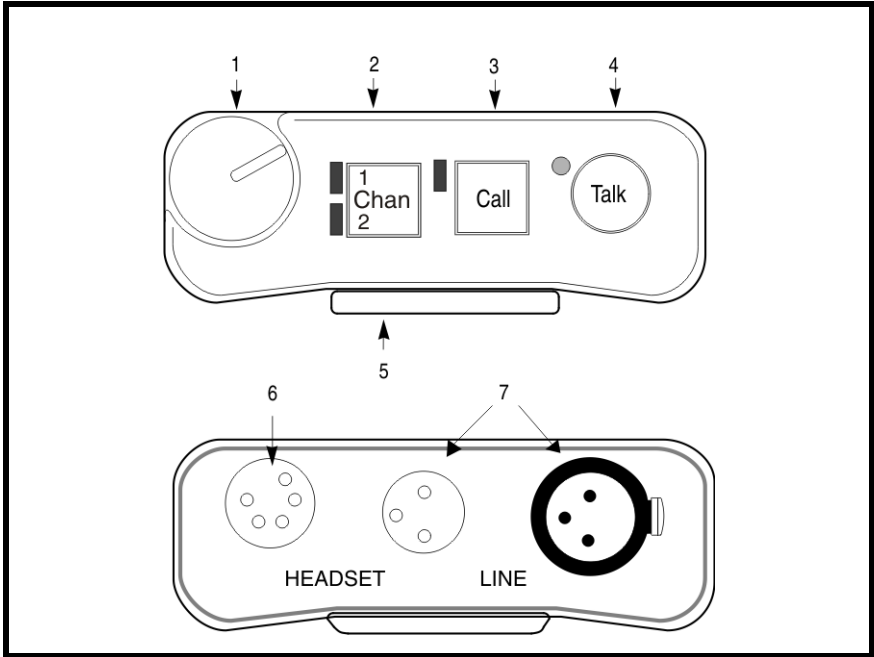
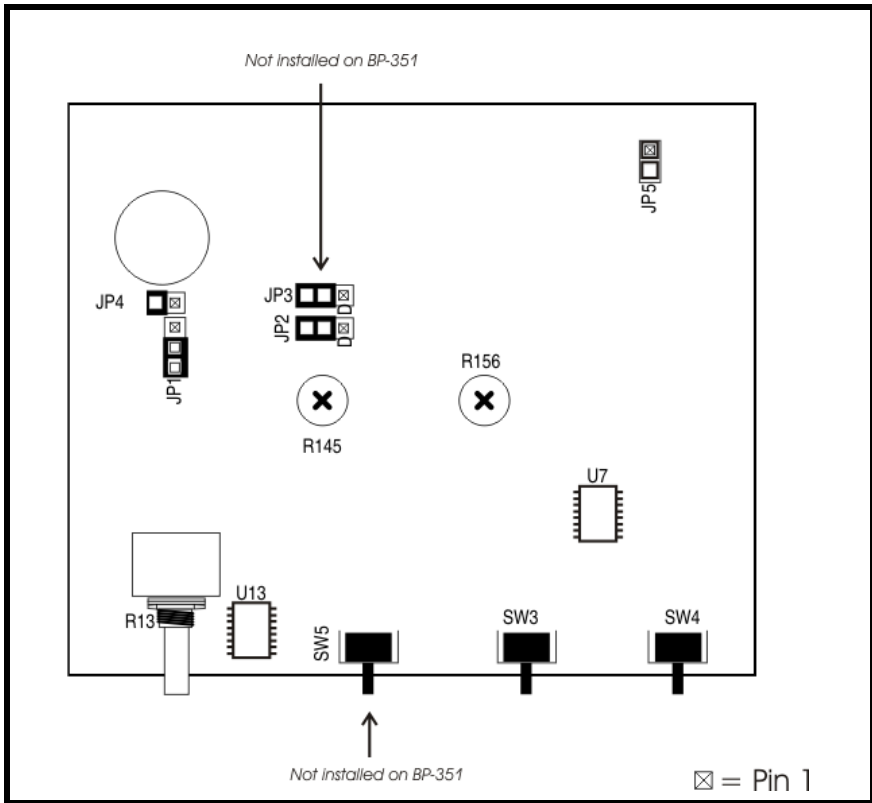

FIGURE 1. Reference View
FIGURE 2. Internal Jumpers and Switches
- A loop-through connection (XLR male) connects several belt packs in a chain. Since this is often the preferred method of connection, a line loop connector has been added to new units. See Figure 1 on page 6.
NOTE: The numbers refer to the callouts in Figure 1.
There are several internal switches, jumpers, and adjustments that affect operation. These are described below. To gain access to the switches, jumpers, and adjustments, disconnect all power and line connections. Remove two screws from the top of each side of the case and two screws from the bottom of each side of the case. The jumper and switch locations are shown in Figure 2.
The **Sidetone Adjustment** is accessible either internally (see Figure 2) or by removing the belt clip mounting screw (#5) shown in Figure 1.
The **Mic Gain Adjustment** is accessible internally on the board (R156)y (see Figure 2) or by removing the belt clip mounting screw (#5) shown in Figure 1.